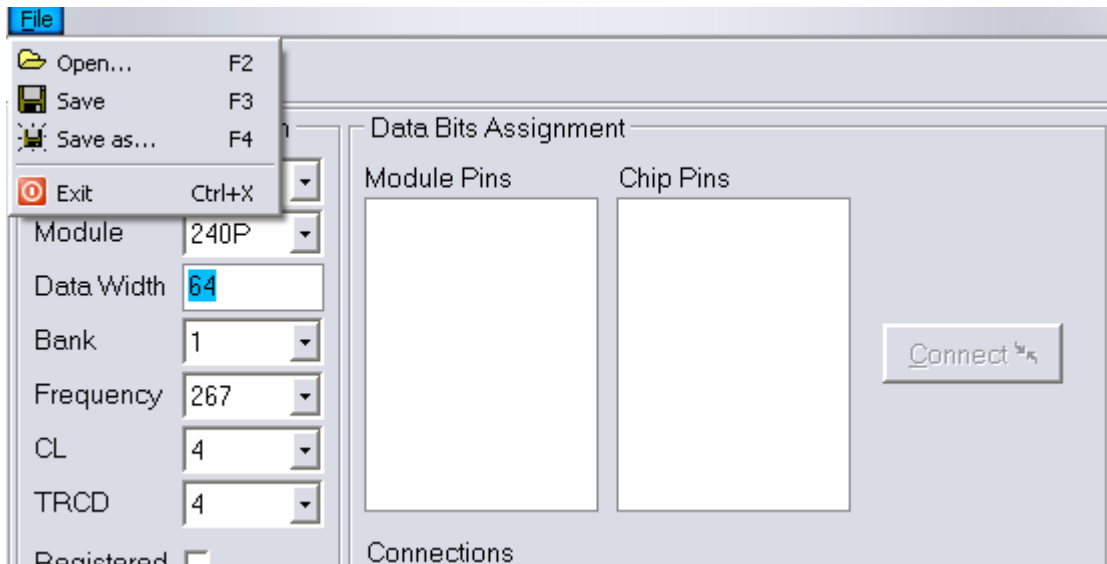

Fig. 33
Step 3: Once all the modifications have been finished, user can save the module information by four simple ways. (Fig. 33)